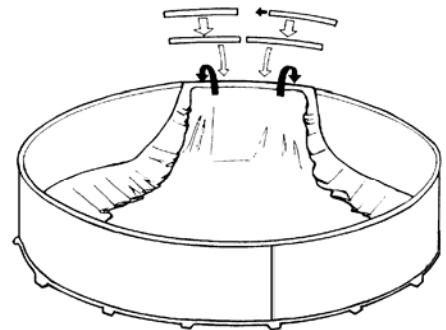

Figure 6.2
Do not install liner at opposite sides (figure 6.2, 6.3). To avoid liner creases and wrinkles, the liner must be installed moving in one direction.
- Install the top wall channels on the wall (figures 6.2, 6.4), following this step around the circumference of the pool. Do not install liner at opposite sides. To avoid liner creases and wrinkles, the liner must be installed from one direction.